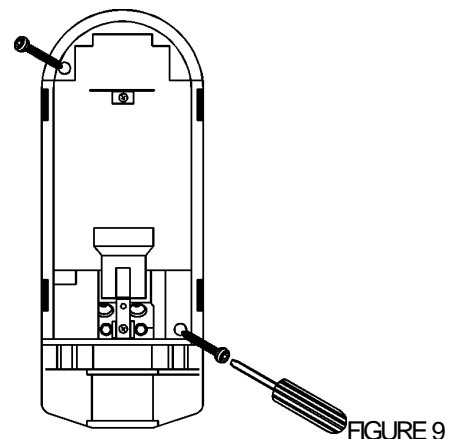

FIGURE 9
- (6) Drill two holes on the bottom housing using the two screws provided to fix the unit to the wall (FIGURE 9).